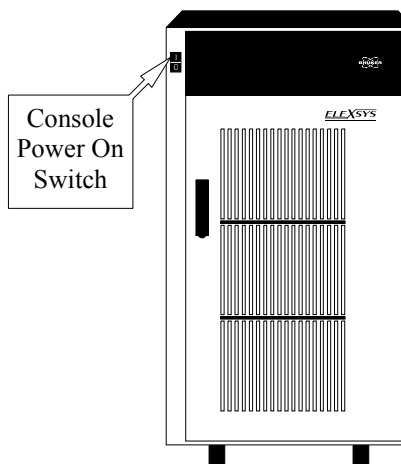

Figure 3-3 The location of the console power switch.
4. **Turn on the power for the console.** The power switch (green button) for the console is located in the upper left front corner of the console. (See Figure 3-3.) The acquisition server will boot and initialize all the modules of the Eleksys E 500 spectrometer. This process may take 30 seconds or longer; meanwhile you can continue with the next steps.